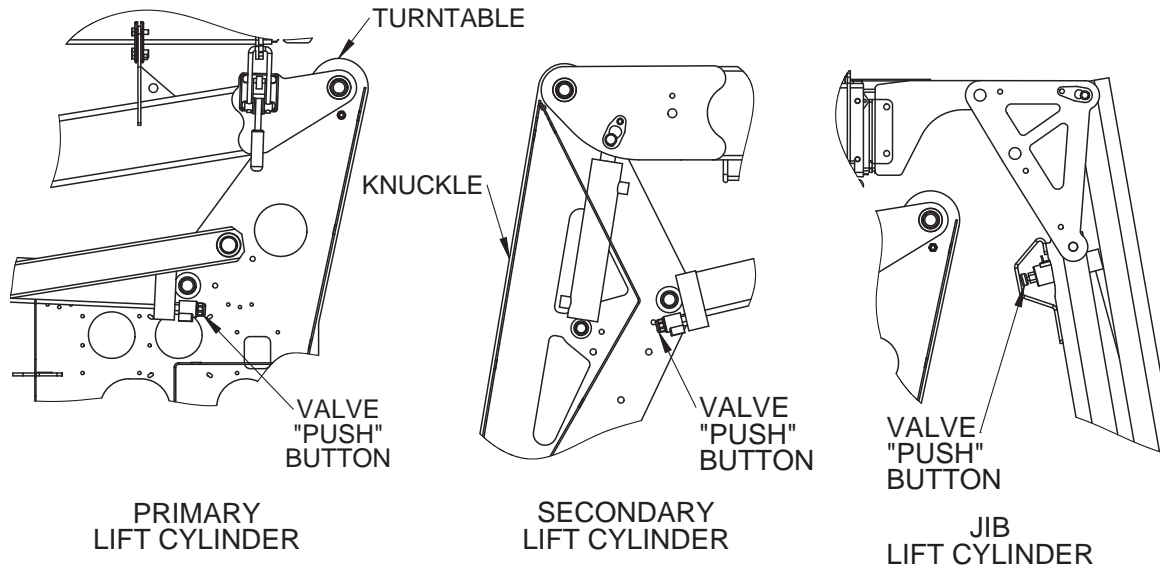

Figure 5-3. Location of Manual Lowering Valves
4527A / HTA 16 P Aerial Work Platforms have three (3) lift cylinders, use the following procedure to remove and replace faulty or damaged hydraulic cylinders. Refer to Figure 5-3 for the location of these cylinders.